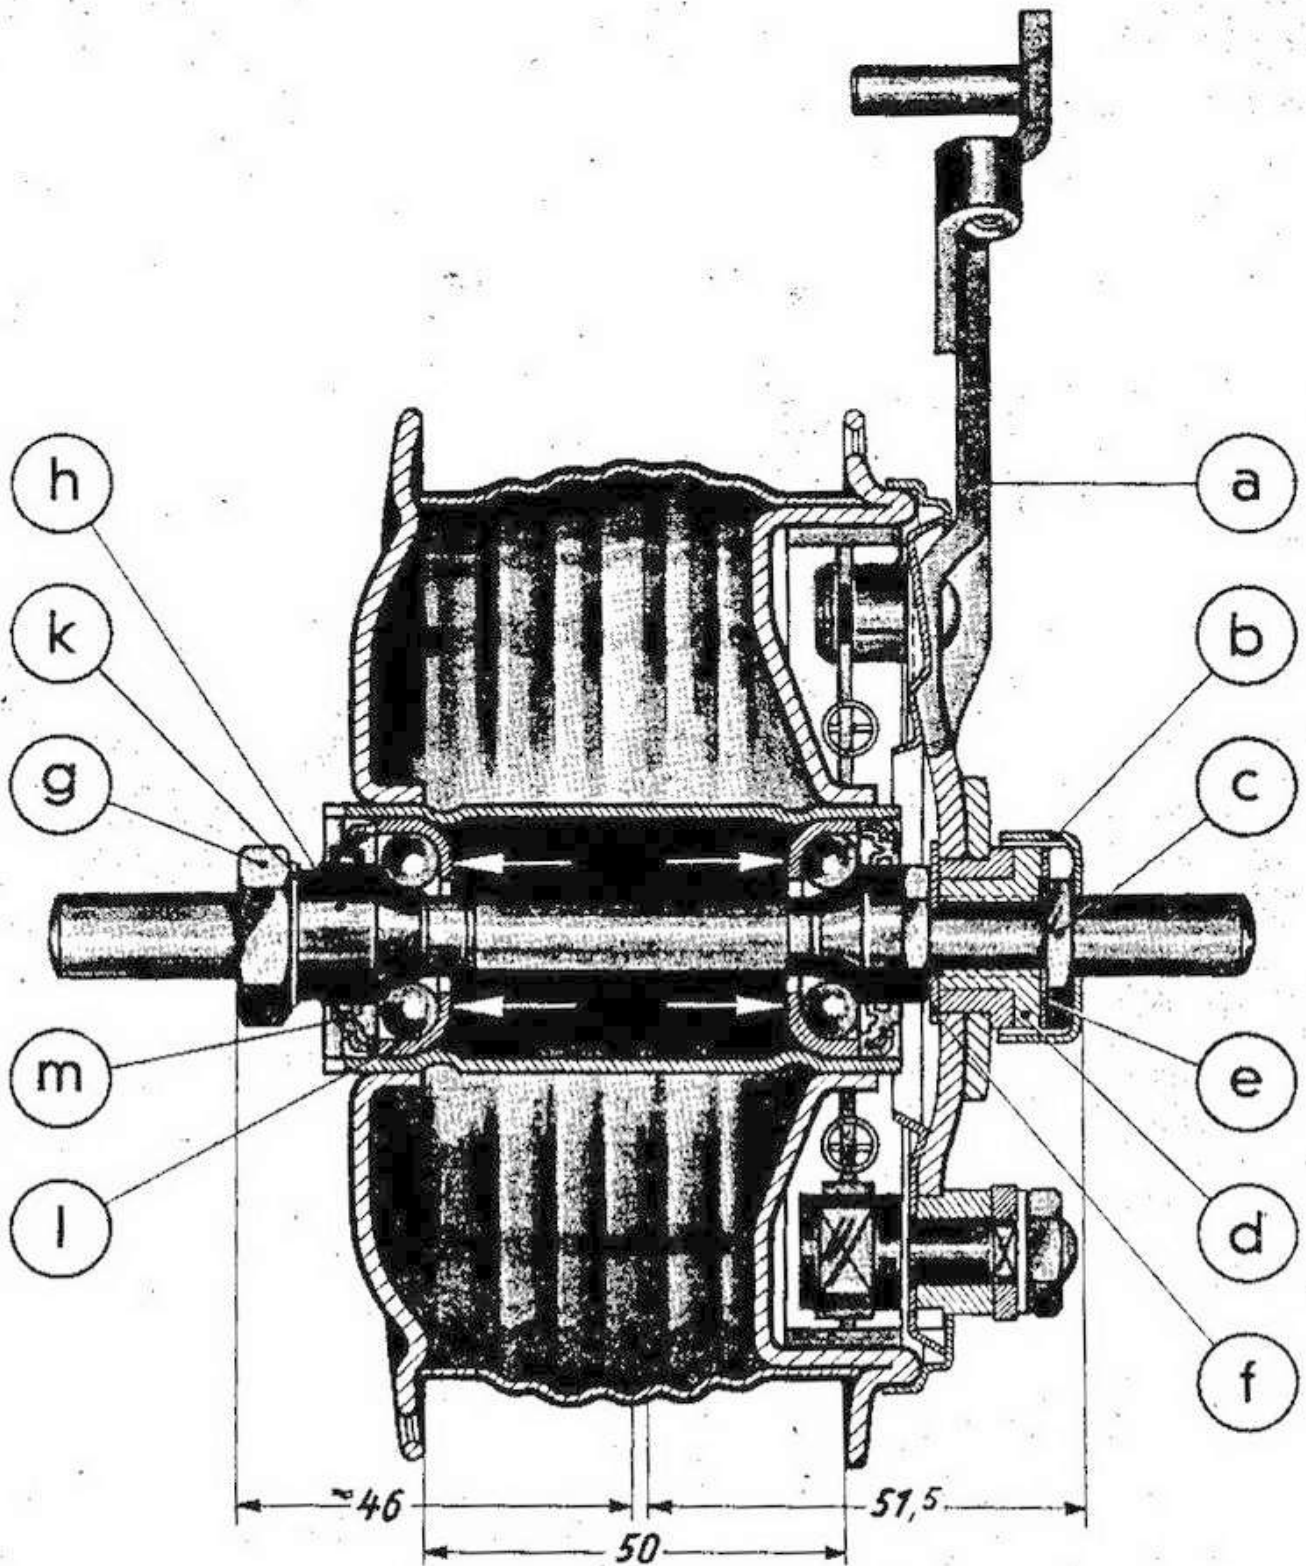

Fig. 106 Assembled parts of the front wheel hub
- Remove cap 'b' from the brake anchor plate 'a', (Fig. 106 on page 88), loosen counter nut 'c' (SW 19) and support the bushing 'd' with a wrench (SW 19) (width approx. 3.5 mm).
To avoid spreading the bearing seat, guide the punch in such a way that after each successive blow (with a light hammer) the opposite side of the bearing cup can be struck a second time (see arrow on Fig. 106).